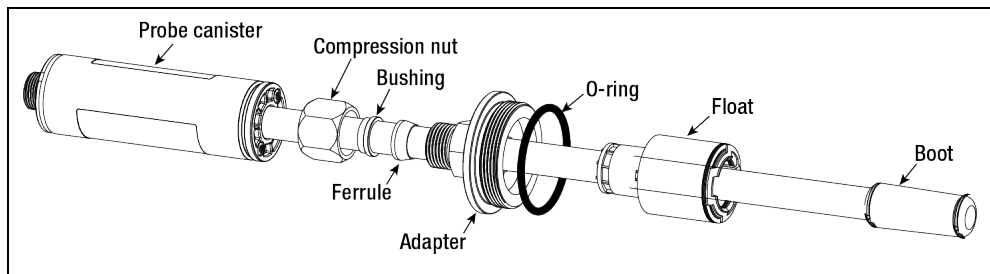

Figure 3. FC Mag Probe Components
7. Apply Lubriplate 630-AA, or similar grease to the o-ring and position it into the groove under the flange of the adapter (see Figure 3).
8. Referring to Figure 3, slide the parts onto the Mag Probe shaft in the following order: compression nut, stainless steel bushing, plastic ferrule, adapter with o-ring, and float. Finally, push the boot onto the bottom of the shaft until it snaps into the groove. Apply Lubriplate 630-AA, or similar grease to both the flat and tapered surfaces of the plastic ferrule prior to installation.